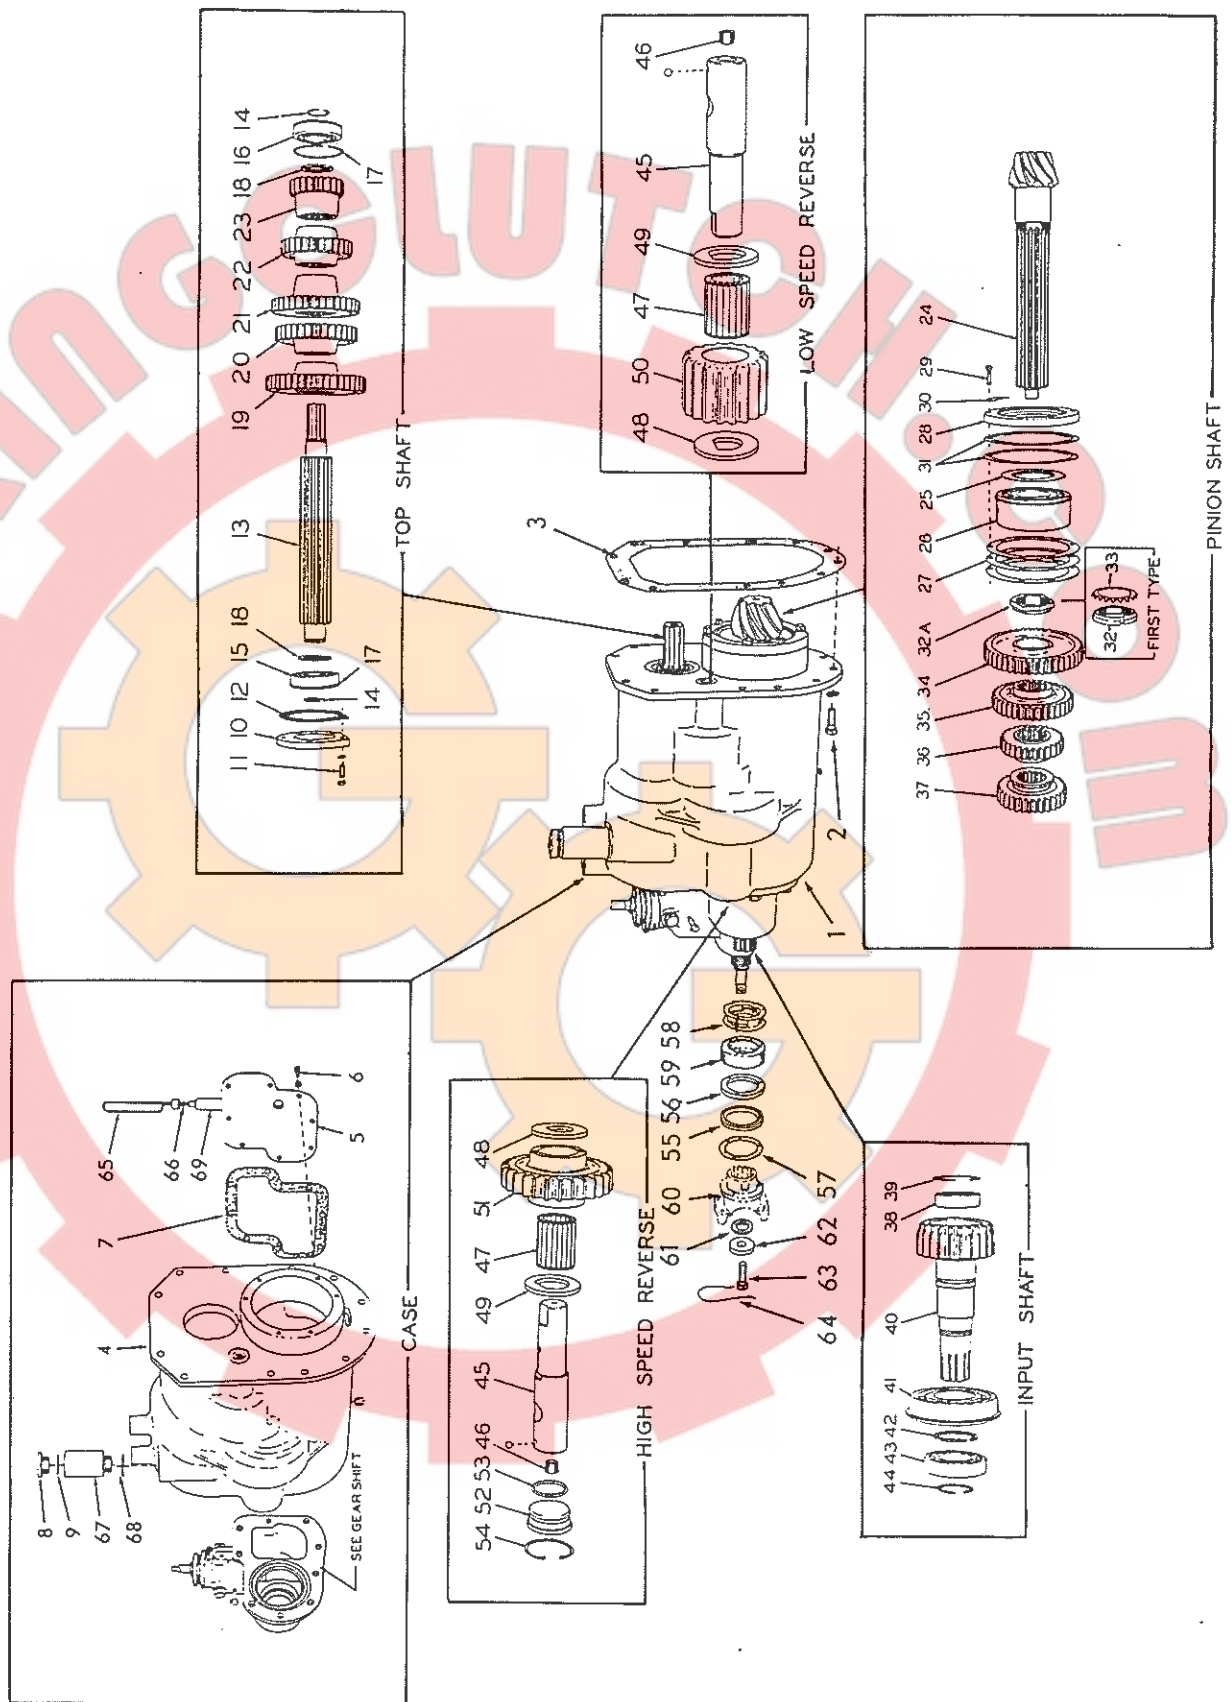

Fig. 7 Transmission Assembly
- a. Install rear bearing shield Fig. 7 (25) on shaft with concave side of offset against pinion gear (shield not used S/N 21448-up). Heat rear bearing in oil to 275°F; install bearing on shaft with snap ring groove in bearing toward rear. Install retaining nut, Fig. 7 (32), and lockwasher; torque nut to 500 lbs.ft. and lock with lockwasher.
Effective with S/N 15586 lockwasher Fig. 7 (33) was discontinued and a new style bearing retaining nut (32A) used. Lock new style nut by staking in groove in shaft; torque is same.
# LEGEND for Figure 7